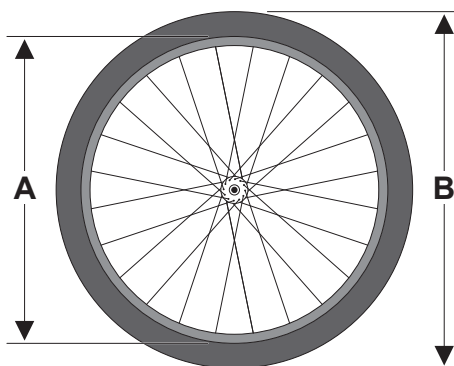
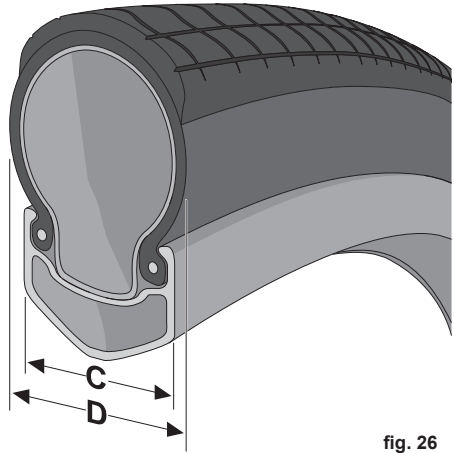

fig. 25
fig. 26
Wheel rims and tires come in a wide range of diameters (**fig. 25**) and widths (**fig. 26**). The nominal diameter of the rim (A) must match the nominal diameter of the tire (B), and the width of the rim (C) must be compatible with the width of the tire (D).